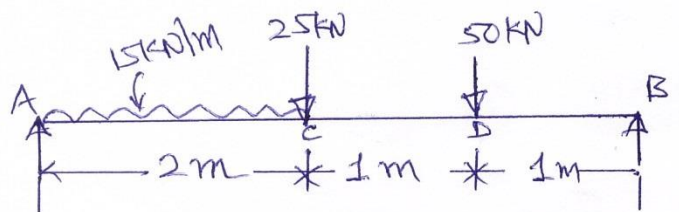

fig. 7
- (c) Draw shear force and bending moment diagrams for the beam loaded as shown in fig.7 07